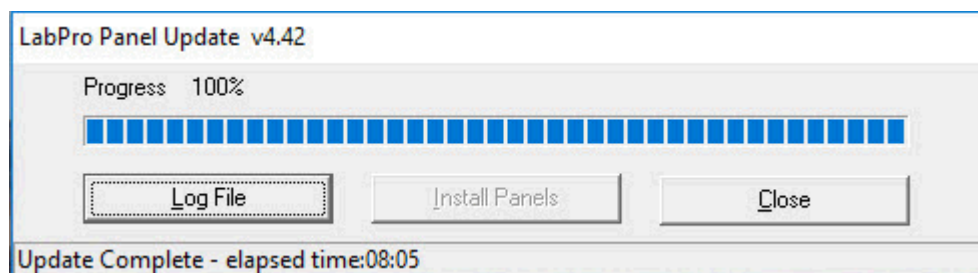

Figure 8: Update Complete
6. Click **Finalize**. The LabPro Panel Update installer dialog box displays again (See Figure 8).